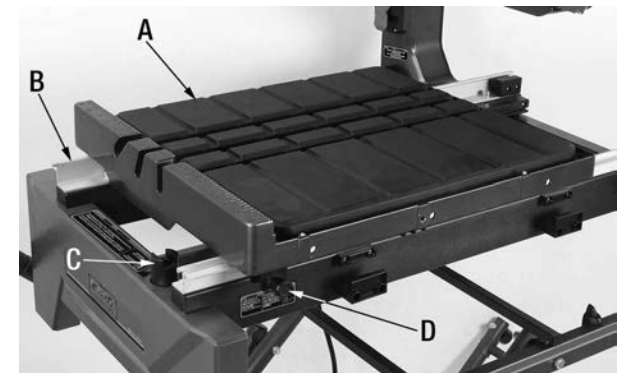

FIGURE 9
- 1) Before attempting to install the sliding table on the frame rails, the table stop (C) Fig.9 must be positioned in the "unlocked" position as shown in the illustration below.
- 2) Slide the sliding table (A) Fig.9 onto the frame rails (B) by setting table rollers under the table onto the rails. Once engaged slide table towards the back of the Tile Saw.
- 3) To prevent the table from sliding off the rails, turn table stop (C) Fig.9 in the "locked" position as shown in the illustration above.
- 4) To secure the table and prevent it from sliding, push in the table lock (D) Fig.9 into one of the holes in the front rail.